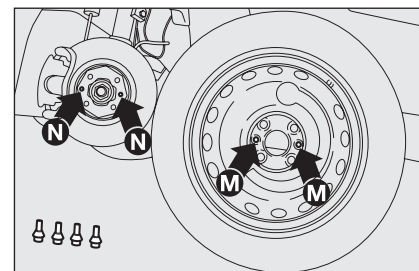

fig. 15
- ☐ Fit the spare wheel making the holes **M-fig. 15** coincide with the respective centring pins **N**;